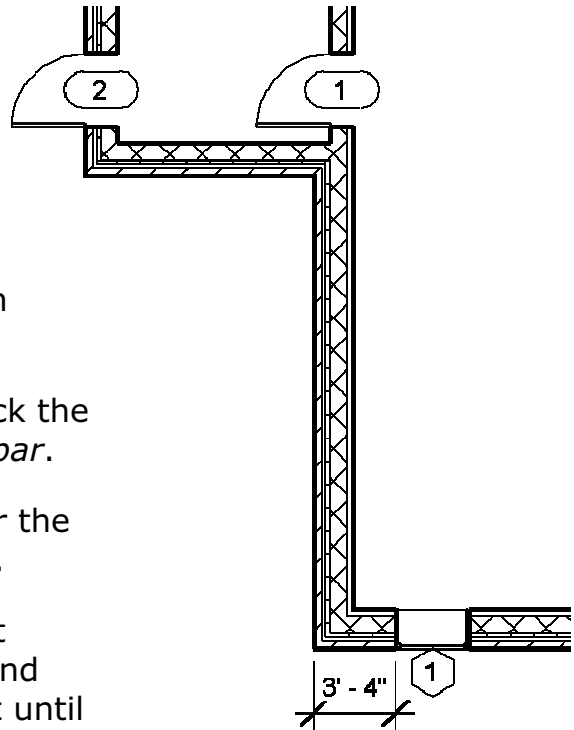

Figure 3-5.9 Exterior window
16. Insert the window as shown in **Figure 3-5.9**. The window should be inserted in masonry coursing.